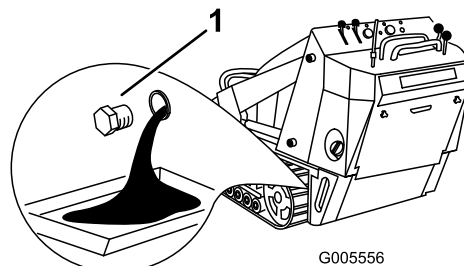

Figure 34
- Remove the drain plug (Figure 34).